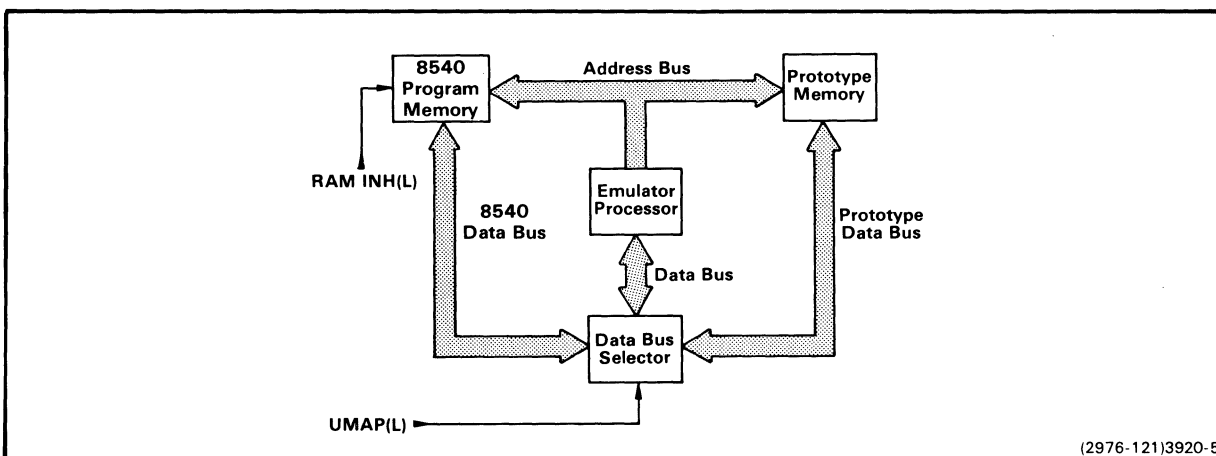
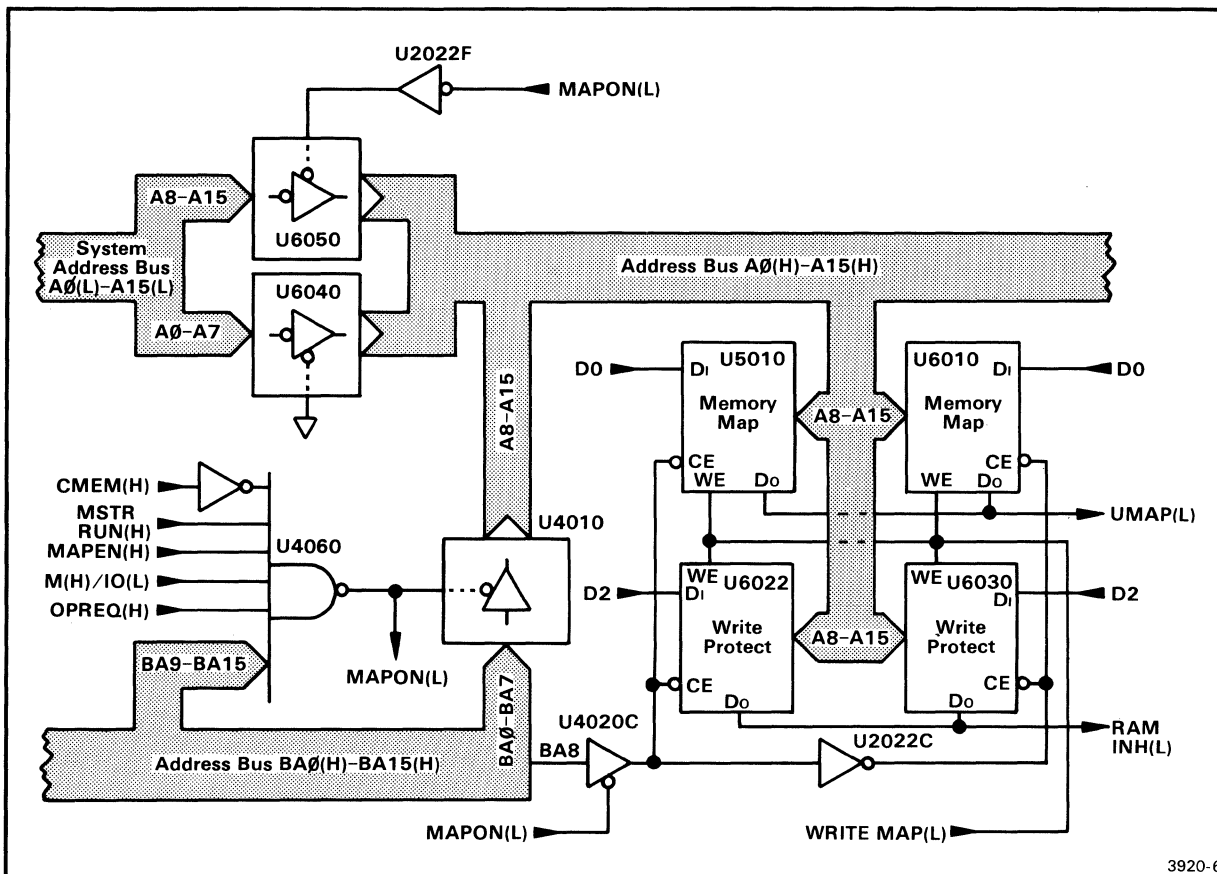

Fig. 4-3. Memory map functional control.
Fig. 4-4. Memory Map and Write Protect simplified block diagram.
In emulation mode 1, memory can be mapped to the 8540 Program Memory and/or the prototype memory. Memory mapping permits the user to assign 128-byte blocks of memory address space to either the 8540 Program Memory or the prototype memory, throughout a total address space of 64K bytes. Figure 4-3 shows the functional control of the memory mapping feature. The UMAP(L) control line determines whether the 128-byte memory block is stored in program memory or prototype memory. Additionally, any 128-byte block within the 8540 Program Memory (64K address space) can be write-protected. The RAM INH(L) line determines which of the 128-byte blocks of program memory are write-protected. If a write violation occurs, an interrupt is generated. The write-protect function does not affect the prototype memory. Figure 4-4 is a simplified block diagram of the memory map and write protect circuitry.
In Fig. 4-4, note that address lines BA9(H)--BA15(H) are connected to the input of decoder U4060. These address lines are high for addresses between FE00 and FFFF; the decoder is enabled when the other input control lines are also high. When the decoder is enabled, MAPON(L) control line goes low. This has the following effect:
3. Enables gate U4020C, which places the state of BA8(H) onto the chip enable (CE) input lines of the memory map and write protect RAMs.